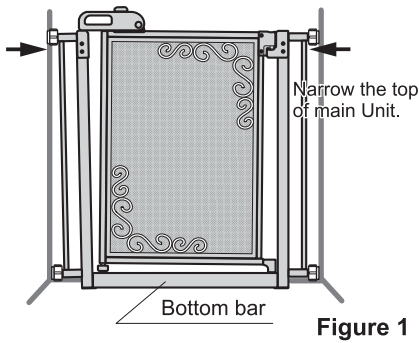

Figure 1
- The bottom bar should contact the floor for safety as shown in Figure 1.